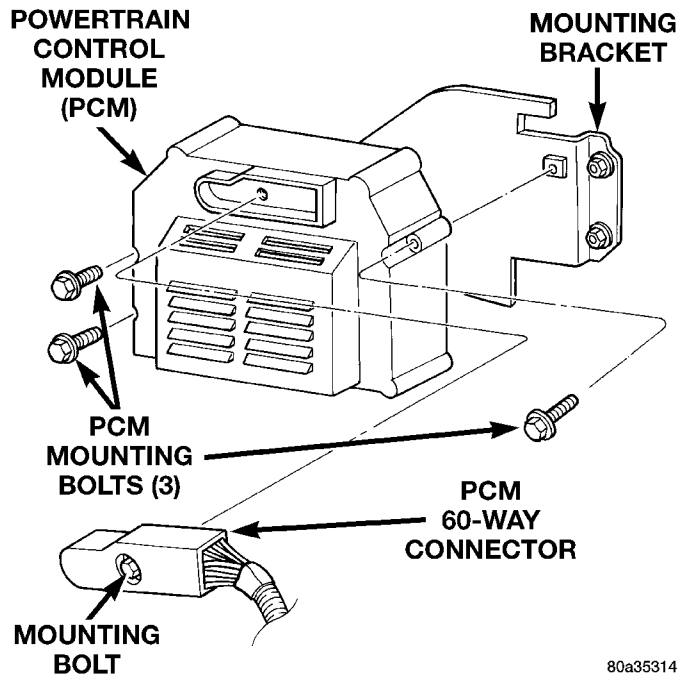

Fig. 24 PCM Location
The PCM is mounted to a bracket mounted to the inner side of the right fender well behind the air cleaner assembly.(Fig. 24).
- (1) Disconnect the negative battery cable at the battery.
- (2) Loosen the 60-Way connector (Fig. 24). The electrical connector has a sliding bar which moves inward to lock or outward to unlock.
- (3) Remove the electrical connector by pulling straight out.
- (4) Remove PCM.